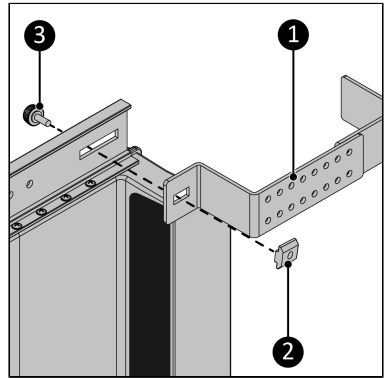

Figure 97.
- Screw the bracket (Figure 97, pos. 1) to the main rail in the front position using the knob screw (Figure 97, pos. 3). Make sure you connect the knob screw to the slide nut (Figure 97, pos. 2).